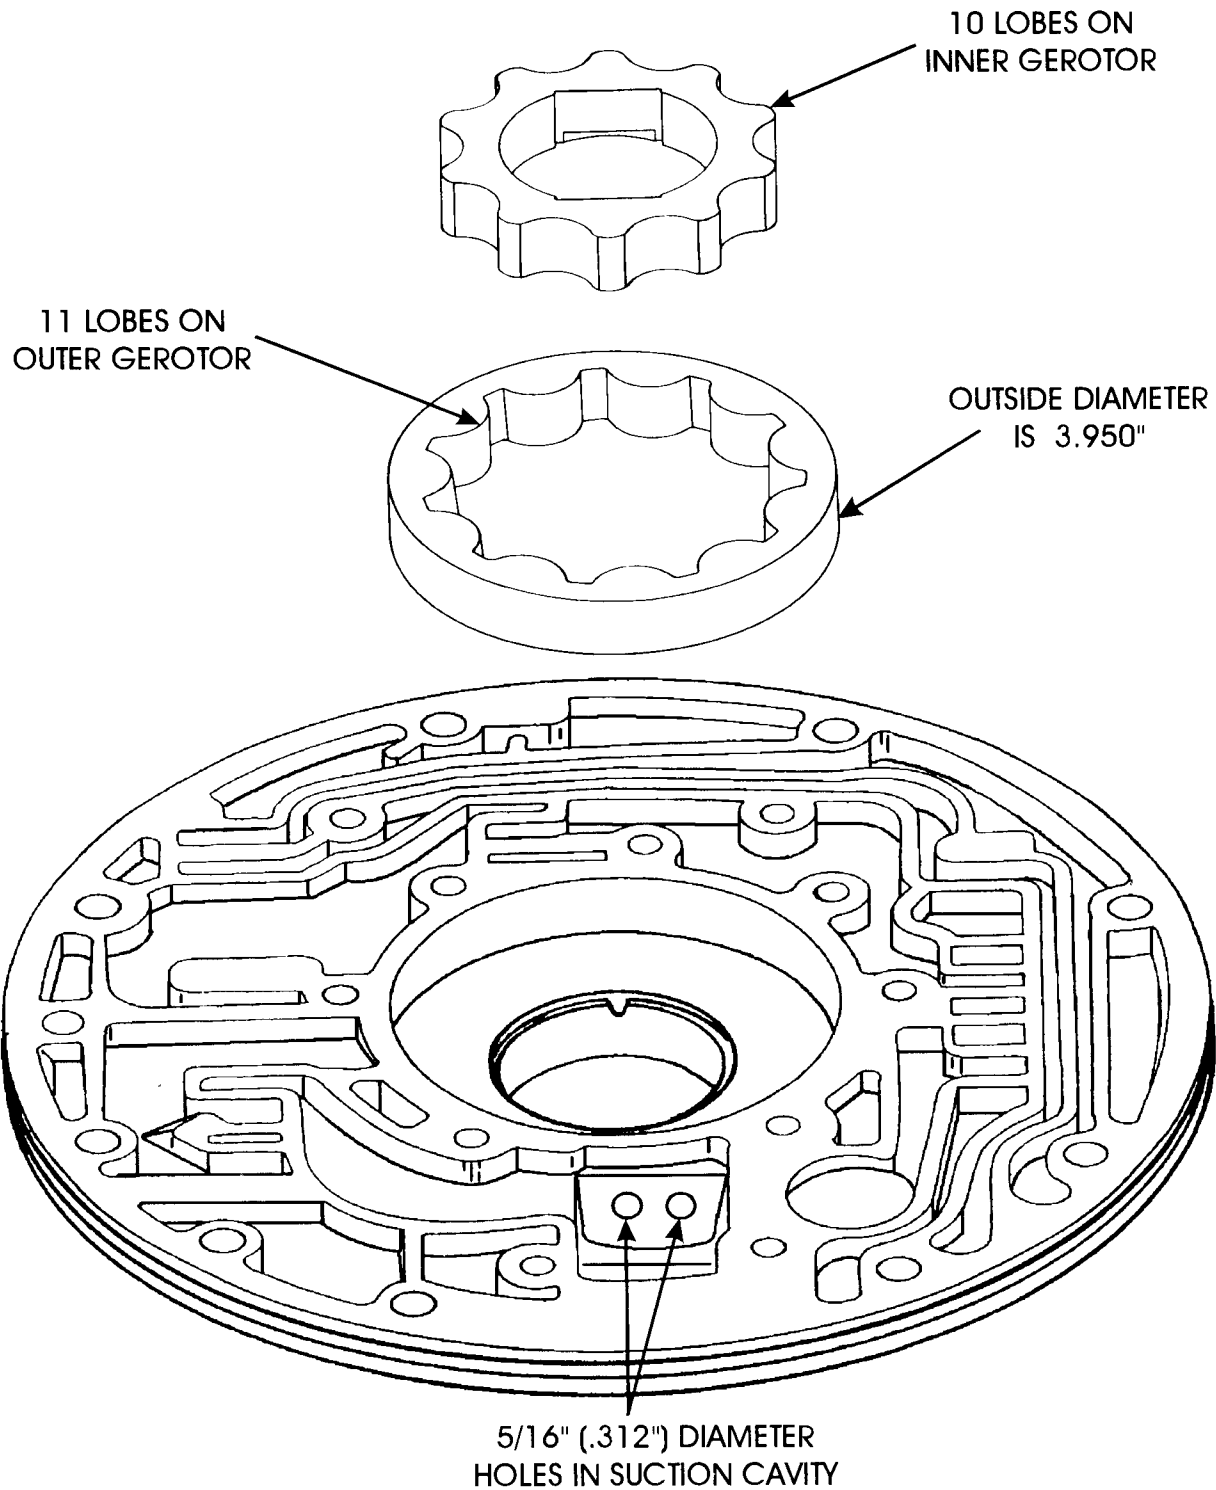

Figure 55
- (1) **FRONT PUMP BODY** - Gerotor bore has an increased diameter to accommodate the new design level outer gerotor. Previous outer gerotor diameter was 3.950" and the new design level outer gerotor diameter is 4.083". Refer to Figures 55 and 56. Also, the two holes in the suction cavity were increased from .312" to .400", as shown in Figures 55 and 56. Another way to identify the new pump body is with the "Rough Forging Number" F5TP-7A105-AA, and is found on the front seal side of the pump body. All of the oil passages in the new design Front Pump Body remained the same as previous years and are identified in Figure 58.
- (2) **OUTER GEROTOR** - The lobes on the Outer Gerotor changed from the previous 11 lobes to 10 lobes on the new design, to accommodate the changes on the inner gerotor. The diameter of the Outer Gerotor also changed from 3.950" to 4.083". Refer to Figures 55 and 56. The changes on both the inner and outer gerotor increased the cavity between the gerotors for increased pump volume, as shown in Figure 57.
- (3) **INNER GEROTOR** - The lobes on the Inner Gerotor changed from the previous 10 lobes to 9 lobes on the new design, to accommodate the changes on the outer gerotor. Refer to Figures 55 and 56. The changes on both the inner and outer gerotor increased the cavity between the gerotors for increased pump volume, as shown in Figure 57.